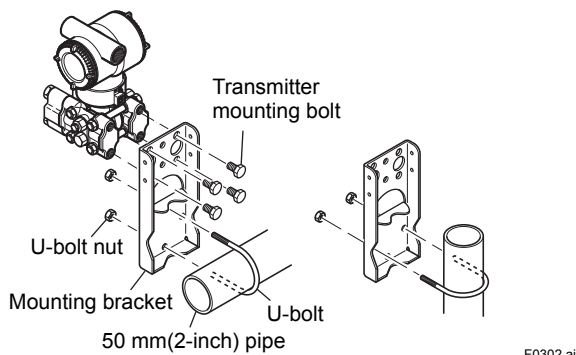

Figure 3.2 Transmitter Mounting (Horizontal Impulse Piping Type)
- The transmitter can be mounted on a nominal 50 mm (2-inch) pipe using the mounting bracket supplied, as shown in Figure 3.2 and 3.3. Tighten the (four) bolts that hold the transmitter with a torque of approximately 39 N·m {4 kgf·m}.